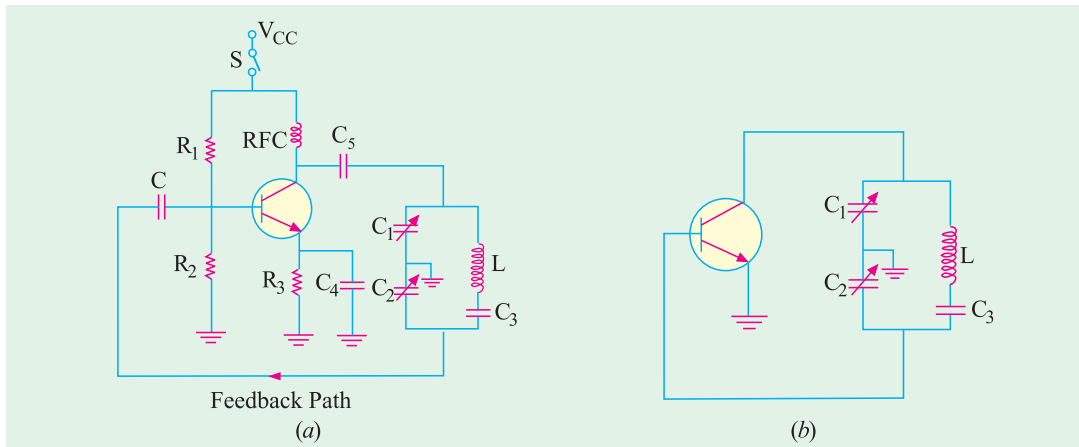
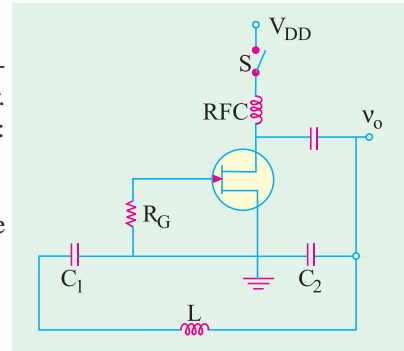

Fig. 65.10
Fig. 65.13
This oscillator is essentially the same as Hartley oscillator except for one difference. Colpitts oscillator uses **tapped capacitance** whereas Hartley oscillator uses **tapped inductance**\*. Fig. 65.10(a)
shows the complete circuit with its power source and dc biasing circuit whereas Fig. 65.10 (b) shows its ac equivalent circuit. The two series capacitors  $C_1$  and  $C_2$  form the voltage divider used for providing the feedback voltage (the voltage drop across  $C_2$  constitutes the feedback voltage). The feedback factor is  $C_1/C_2$ . The minimum value of amplifier gain for maintaining oscillations is
**Example 65.6.** Determine the circuit oscillation frequency for a transistor Colpitts oscillator shown in Fig. 65.10(a). Given,
The circuit is shown in Fig. 65.13. It is similar to the transistor circuit of Fig. 65.10. Here,  $R_G$  is the gate biasing resistor. The radio-frequency coil choke ( $R_{FC}$ ) performs two functions :
**Example 65.8.** Determine the circuit oscillation frequency for the FET Colpitts oscillator (refer to Fig. 65.13), given  $C_1 = 750 \text{ pF}$ ,  $C_2 = 2500 \text{ pF}$  and  $L = 40 \text{ }\mu\text{H}$ .